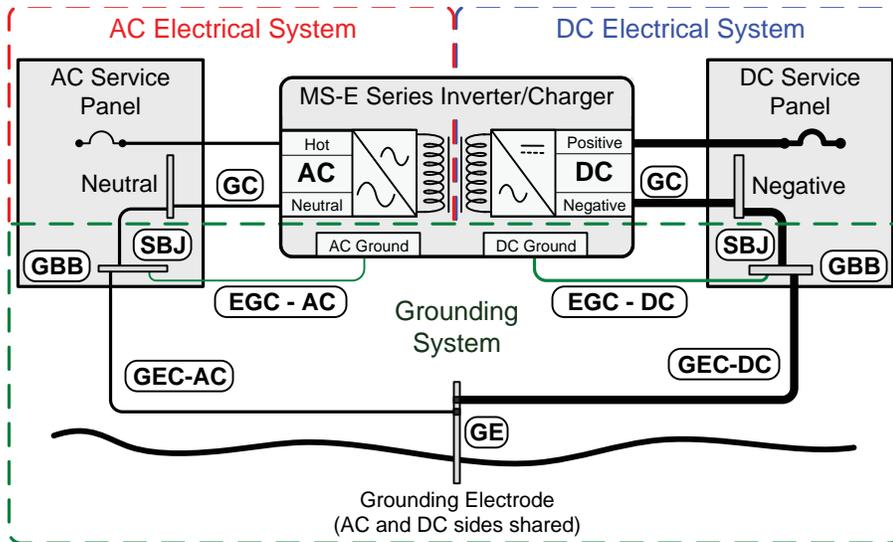

Figure 2-12, Multiple Connections to DC Ground Rod (Method 2)
Method 2 (Figure 2-12): When the AC and DC service panels are near each other, then the AC grounding electrode conductor (GEC-AC) and the DC grounding electrode conductor (GEC-DC) can be connected to a single grounding electrode (GE). In this method—since there are multiple connections to the DC grounding electrode (GE-DC)—the size of the DC grounding electrode conductor (GEC-DC) can not be smaller than the largest conductor in the DC system (usually the battery-to-inverter cable).